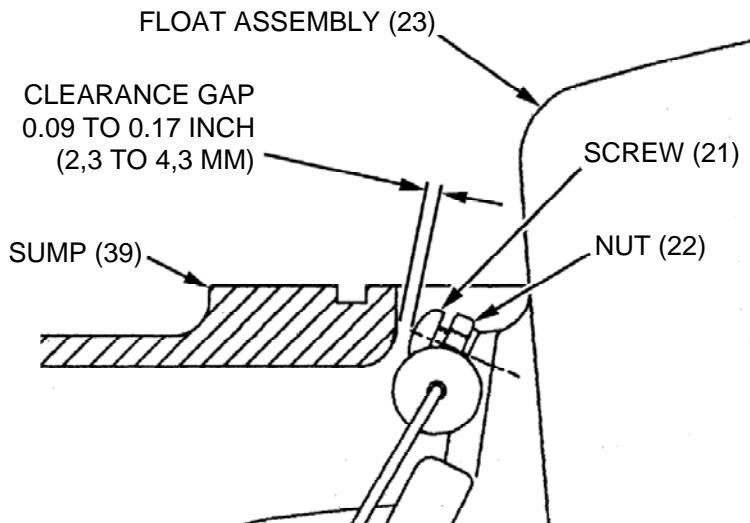

Figure 4. Float Assembly Stop Adjustment Detail
- I. Lift the end of torsion spring (36) and carefully put float assembly (23) in sump (39). Release the spring (36) and make sure its roller rides on the V-track of the float assembly (23).
- J. Pre-adjust the screw (21) as follows:
- 1) Fill the sump (39) with 2 quarts (1.89 liters) of water.
- 2) See Figure 4 and adjust the screw (21) until the clearance gap between the head of the screw (21) and surface of the sump (39) is 0.09 to 0.17 inch (2.3 to 4.3 mm).
- 3) Tighten nut (22) to secure screw (21). Make sure the clearance gap is as shown in Figure 4.
- 4) Drain the sump (39) and allow the parts to dry.